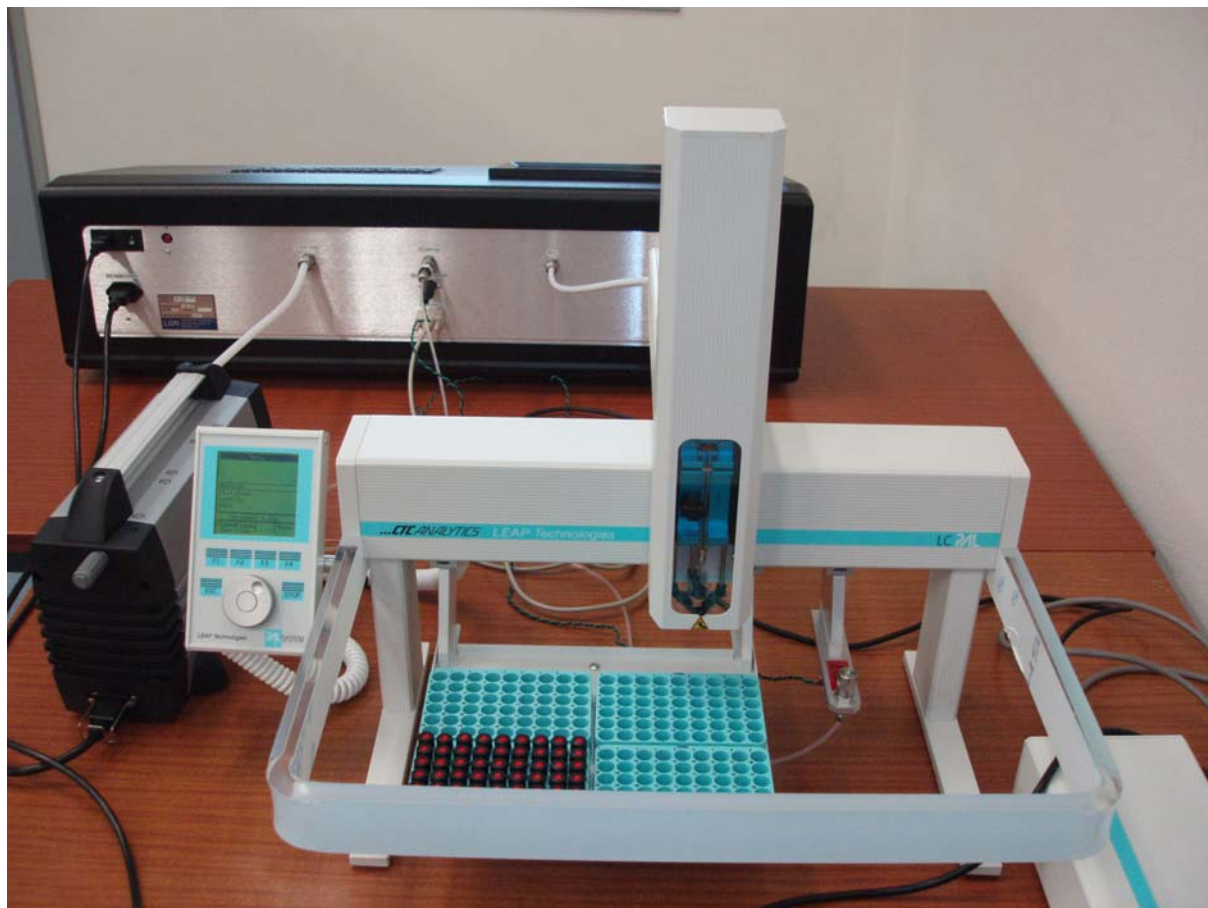

Figure 3. Autosampler with vials ready for analysis.
4. Place the tray on the autosampler (Figure 3) and configure the run on the laser instrument.